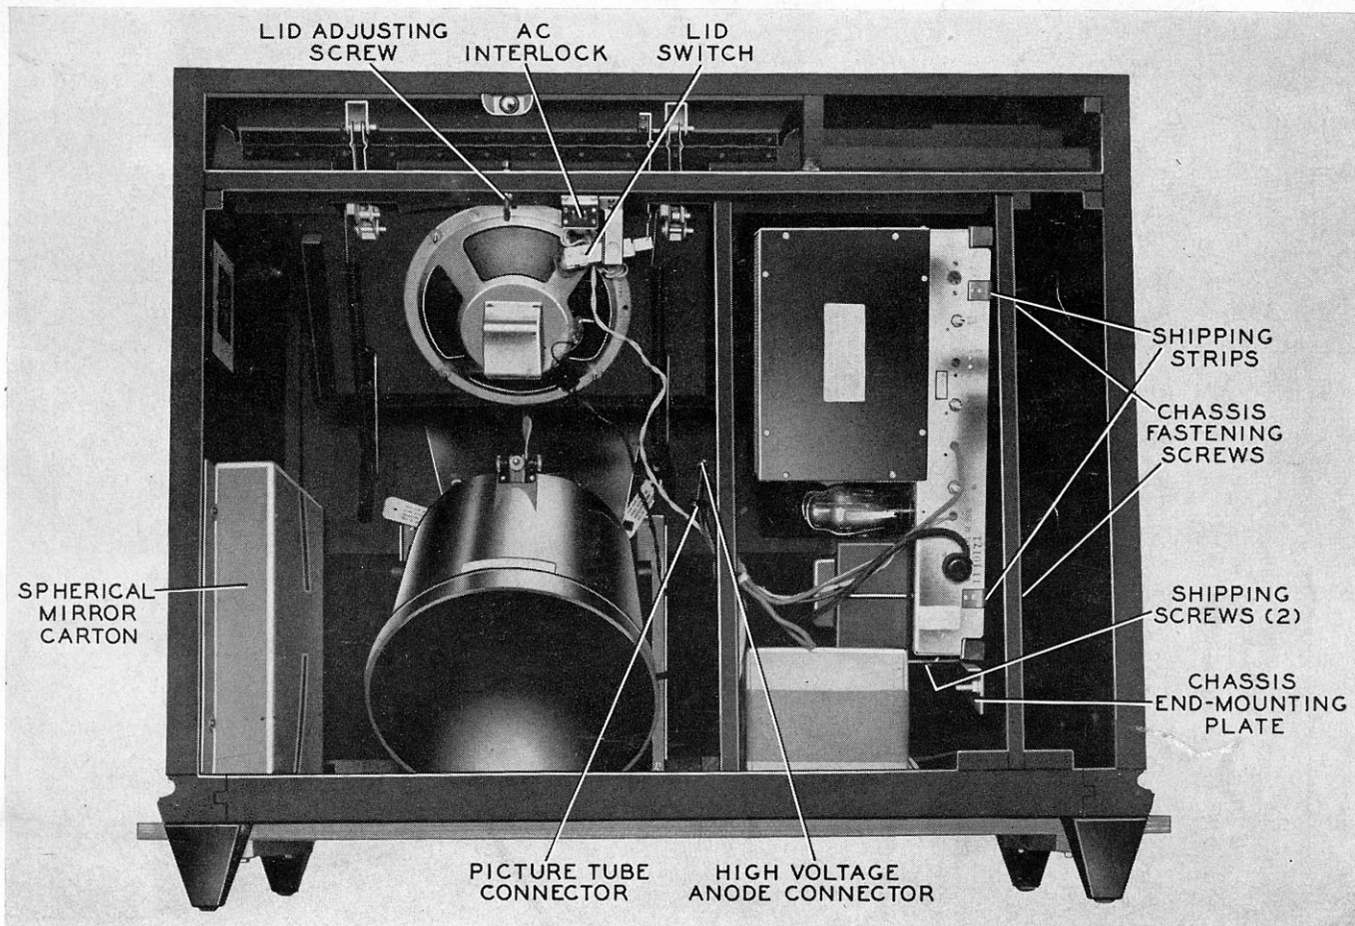

FIGURE 1. Back Cover Removed
3. Remove the screws and take off the back cover, placing it to one side. See figure 1.
6. Remove the carton containing the spherical mirror, and place it to one side; this carton (see figure 1) is fastened to the cabinet by four screws.
7. Referring to figure 1, remove the two slotted-head shipping screws from the chassis end-mounting plate, and take out the two wooden shipping blocks between the chassis and the end-mounting plate.
9. Open the lid which contains the Philco Micro-Lens Screen. The lid should make a 67.5 degree angle with the top of the cabinet; if not, reset the adjusting screw on the top rear rail. See figure 1. The spring action should keep the lid at rest against the stop nut; if not, reset the springs. Be careful not to mar the special finish on the Philco Micro-Lens Screen.